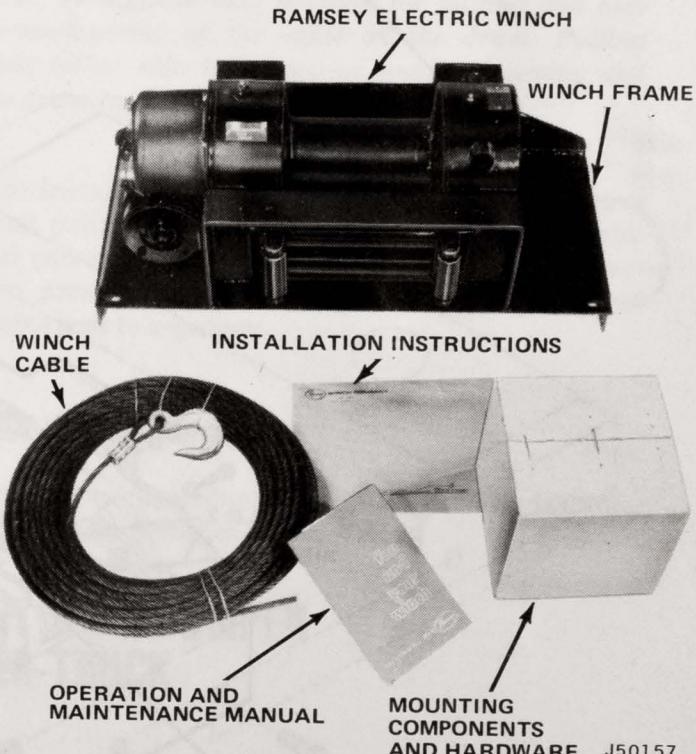
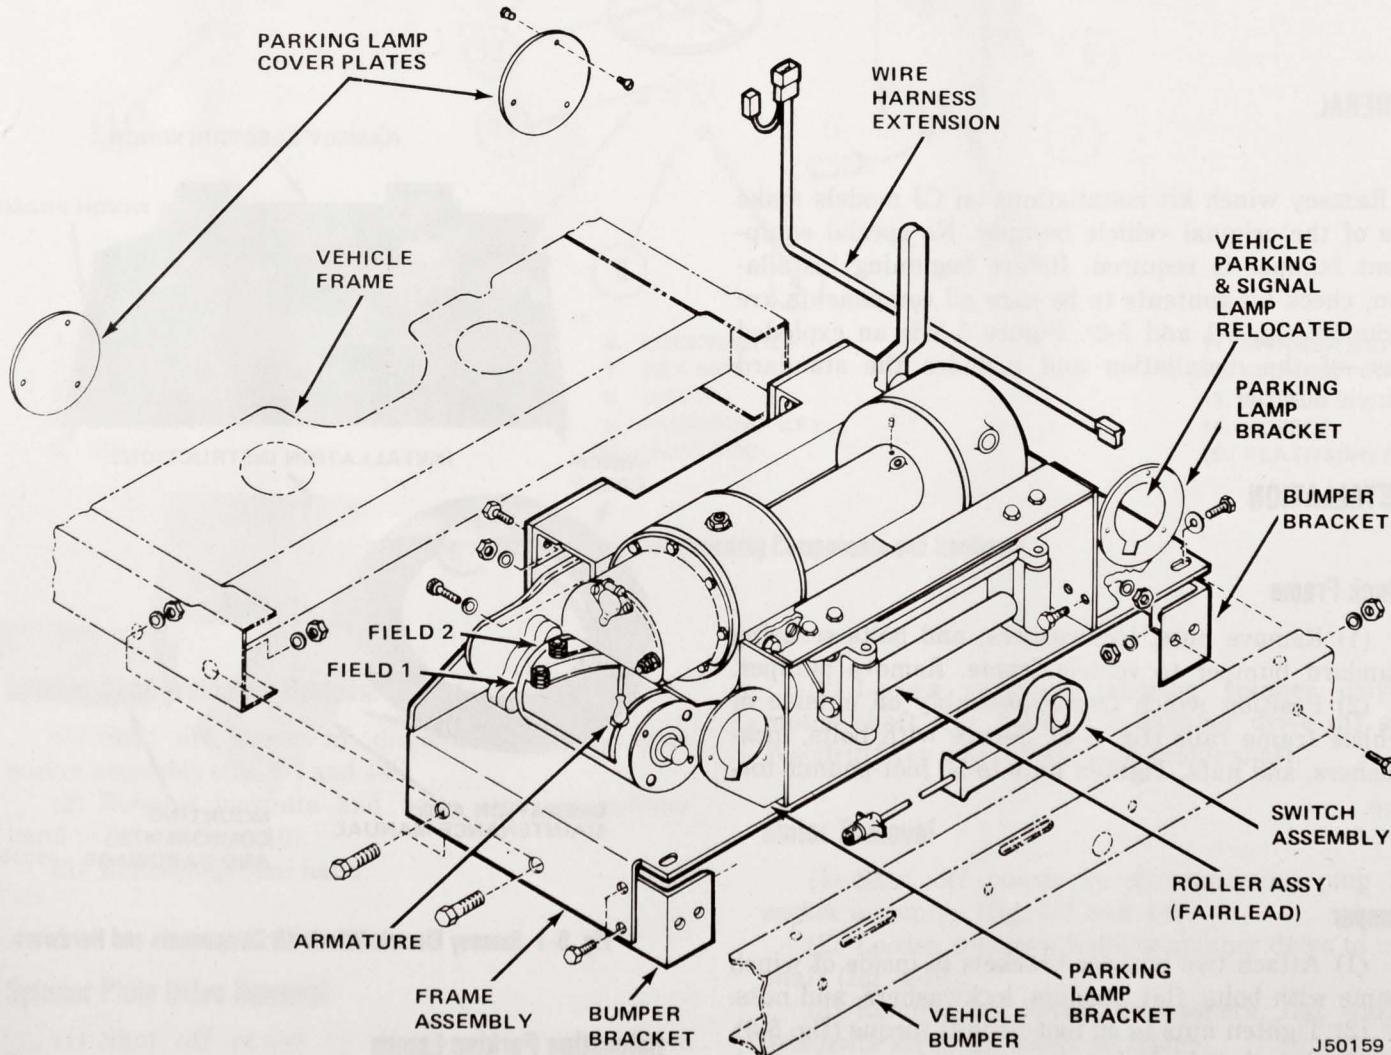

Fig. 5-1 Ramsey Electric Winch Kit Components and Hardware
Fig. 5-3 Ramsey Electric Winch Kit Installation—CJ Models
Ramsey winch kit installations on CJ models make use of the original vehicle bumper. No special equipment bumper is required. Before beginning installation, check kit contents to be sure all components are included (fig. 5-1 and 5-2). Figure 5-3 is an exploded view of the installation and includes the standard vehicle bumper.
(1) Attach two bumper brackets to inside of winch frame with bolts, flat washers, lockwashers, and nuts.
(2) Tighten nuts to 40 foot-pounds torque (fig. 5-3).
(3) Attach vehicle bumper to brackets and winch frame with bolts, lockwashers, and nuts.
(4) Tighten nuts to 18 foot-pounds torque.